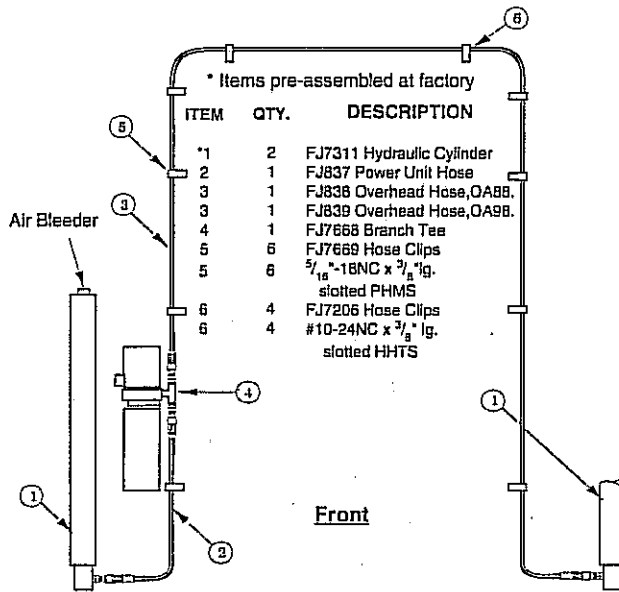

Fig. 9
11. **Hosing:** Clean adapters and hose. Inspect all threads for damage. Install hosing and hose clamps, Fig. 9.
15. **Oil Filling & Bleeding:** System capacity is (13) quarts. Use Dexron II ATF. Remove fill-breather and fill vent screw, Fig. 10 a. Pour in (8) quarts of fluid. Start unit, raise lift about 2 ft. Open cylinder bleeders approx. 2 turns, Fig. 9. Close when oil streams. Fully lower lift. Add more fluid until it comes out fill vent hole. Replace fill vent screw and fill-breather.